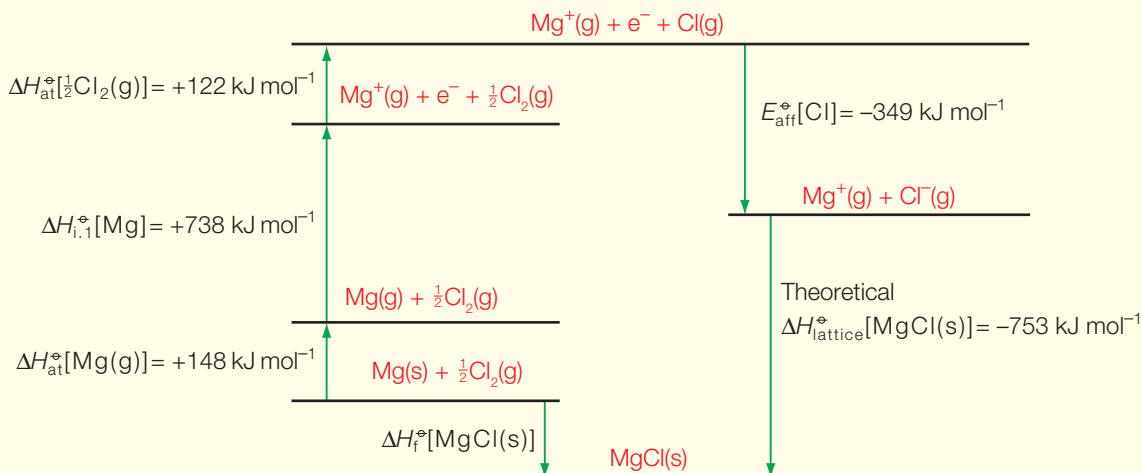

Figure 13.12▲
Using a Born–Haber cycle with a theoretically calculated value for the lattice enthalpy, it is possible to estimate the standard enthalpy change of formation for compounds which do not normally exist. For example, consider the Born–Haber cycle for the hypothetical compound MgCl in Figure 13.12.
- 1 Use Figure 13.12 to calculate a value for the standard enthalpy change of formation of MgCl(s).